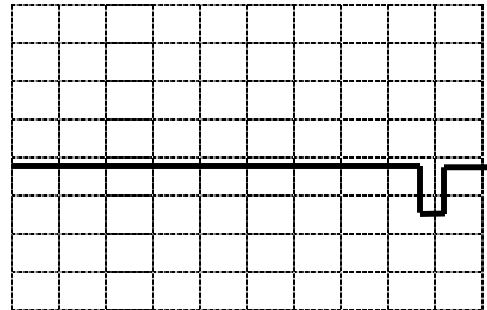
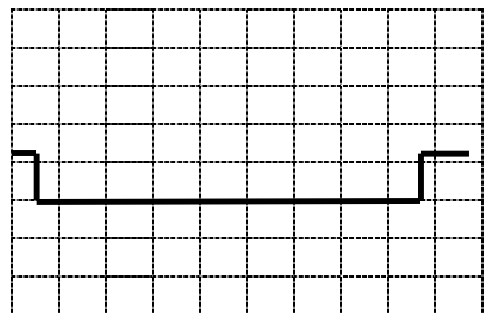

Fig. 2. Minimum Delay Angle.
Fig. 4. Maximum Delay Angle
6. Place channel 1 probe to TP3 (triggered from channel 1), and adjust the potentiometer to change the voltage of SIG, the TP3 angle will be changed. The angle range is about from 8 degree on left side to 170 degree on the right side. The Fig 2 to Fig 4 show different delay angles on the wave form. The angle change is respect with the output voltage change from maximum to minimum.